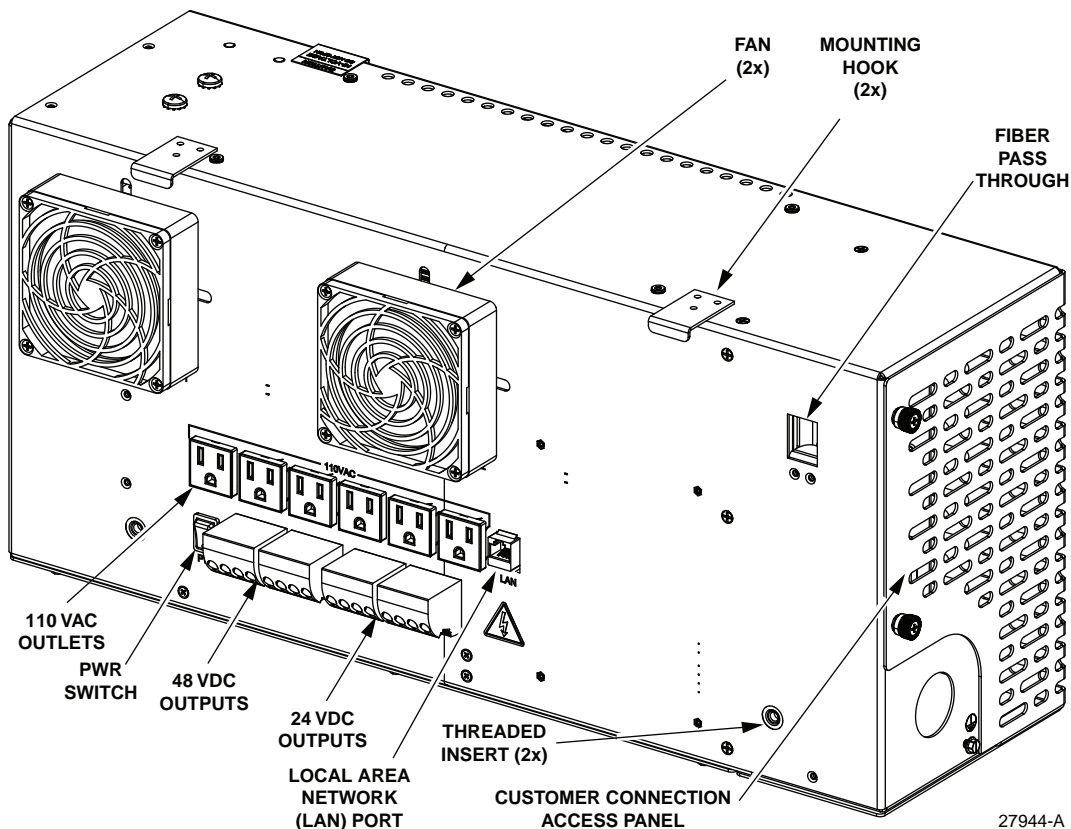

Figure 5. Constellation Powered Backplane
Figure 5 is a front oblique view of the Powered Backplane, with the main features visible that are accessible from within the CPCE-1 enclosure. These features are:
- **PWR Switch**—can be toggled to enable or disable power to the 119 VAC Outlets, 48 VDC Outputs, and 24 VDC Outputs (called out as such in Figure 5). Toggling the switch does not affect the 12 VDC fans, which run continuously.
Table 4 lists specifications for the Powered Backplane. Figure 5 shows dimension.